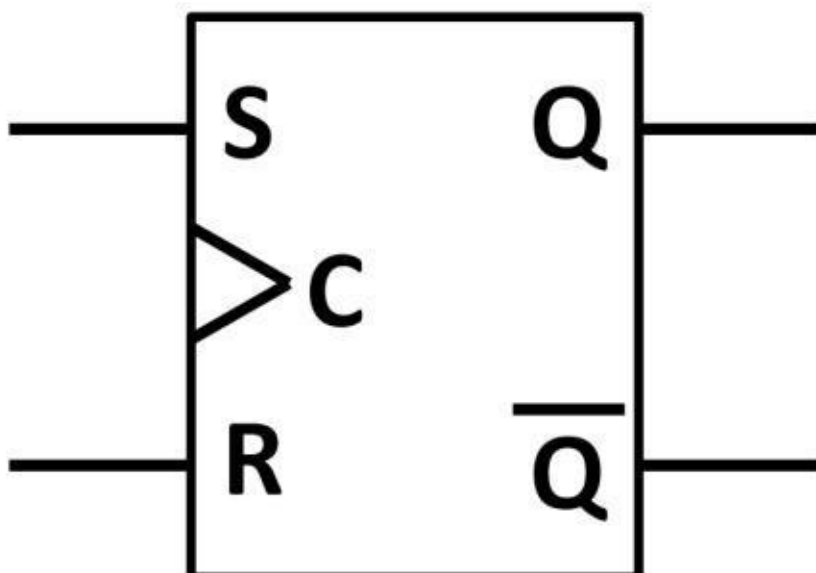

Figure 5.27: S-R edge-triggered
In the previous latch example, flip-flop would be an ideal choice to control output with timing requirements. The S-R edge-triggered flip-flop symbol (see figure 5.27) is similar to that of the latch except that there is an additional pin for the clock input (C). With the additional clock pin, this flip-flop triggers the output in response to the rising or falling edges of the clock, hence the name edge-triggered flip-flop.